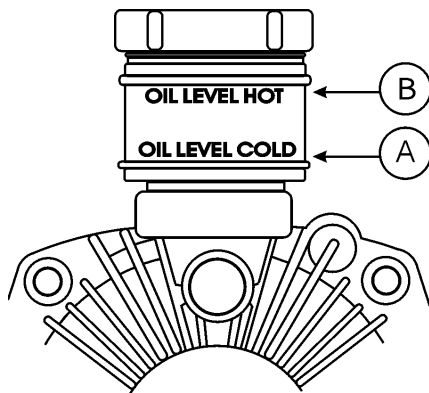

Figure 7. Transmission Reservoir
2. Note the level marks on the reservoir (Figure 7). It is essential to reference the existing oil conditions (A) cold or (B) hot prior to operating the saw. **DO NOT** over fill the fluid reservoir.